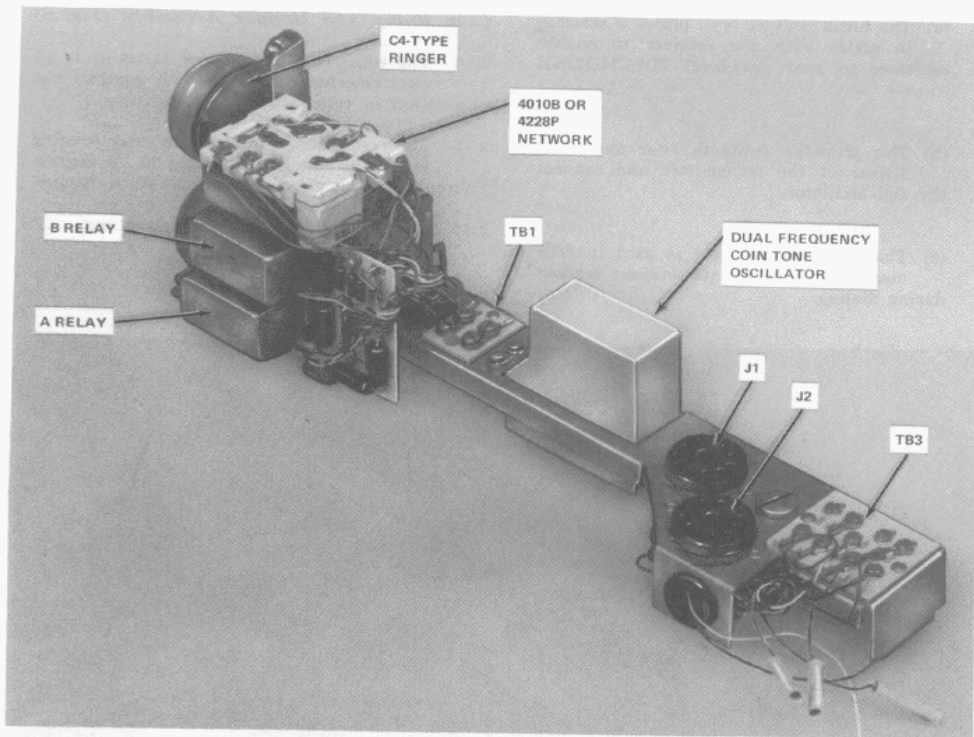

Fig. 6—31A Coin Chassis
- (1) Nickel—1 beep tone
- (2) Dime—2 beep tone
- (3) Pulsing rate—5-8.5 PPS
- Coin Chassis (Fig. 6)**